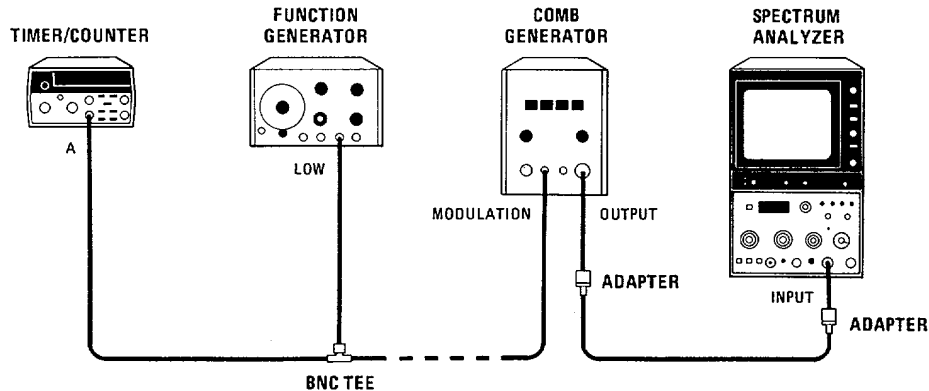

Figure 4-1. Frequency Span Accuracy Test Setup
- 2. Connect equipment as shown in Figure 4-1 but do not connect function generator to comb generator.